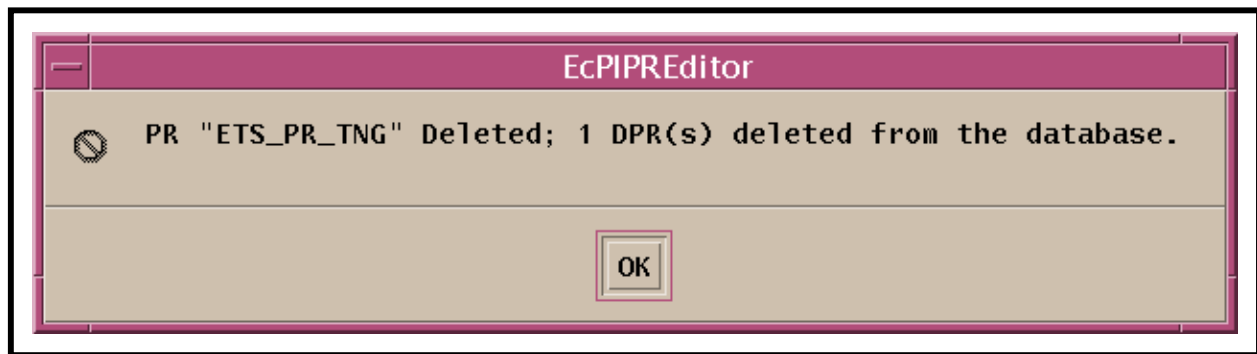

Figure 29. Production Request Deletion Completed Dialogue Box
- A deletion completed dialogue box (similar to Figure 29) is displayed.